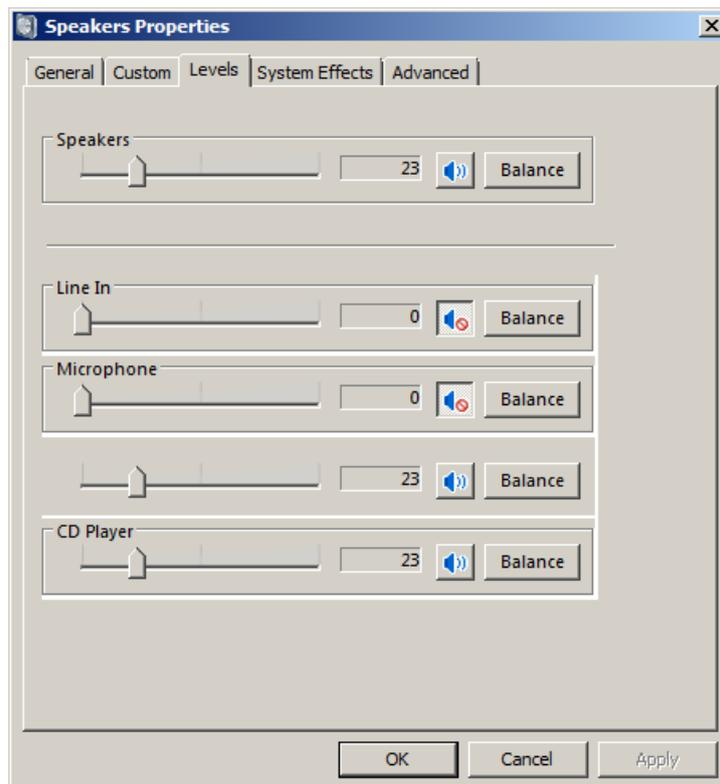

Figure 4.10 Playback channel properties – Output levels
- 3) Click on the tab **'Levels'** to open the output mixer (as in Fig. 4.10). Then mute Line In and Mic channels, if exist.